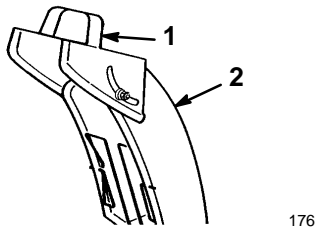

Figure 22
- **Chute Deflector Handle** (Fig. 22)—The deflector handle, located on top of the discharge chute, controls the height of the snow stream.